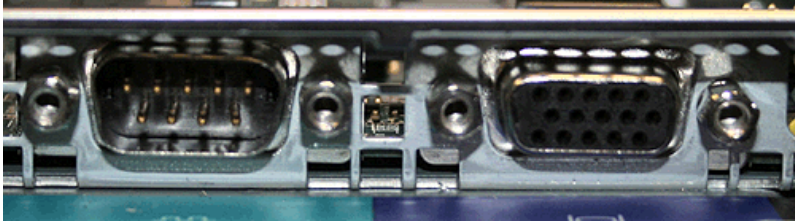

Figure 287. Serial and video ports on the SAN Volume Controller 2145-8G4
18. Remove the four stand-off screws from by the serial and video I/O ports at the rear of the node. Figure 287 on page 286 shows the location of the stand-off screws.